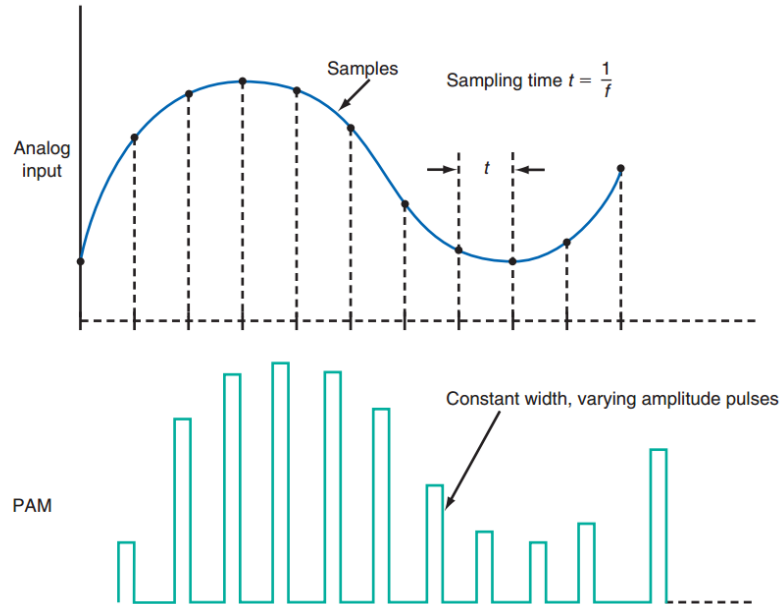
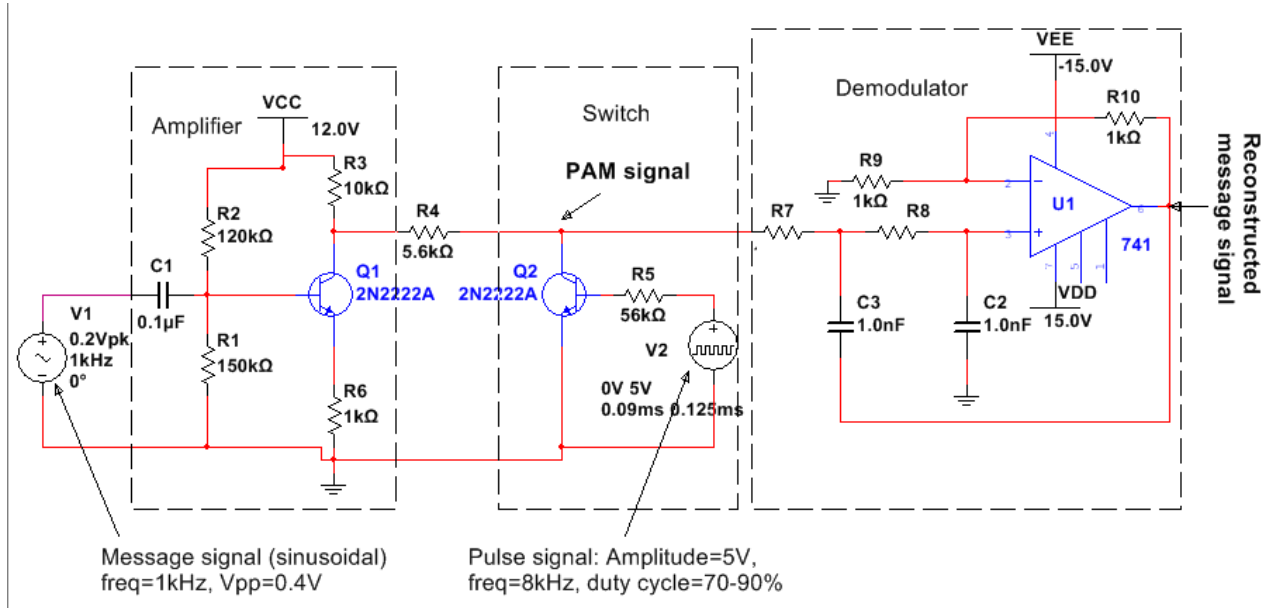

Figure 1: Modulating signal and PAM signal
Figure 2: Circuit diagram
Pulse modulation is the process of changing a binary pulse signal to represent the information to be transmitted. Pulse-amplitude modulation (PAM) is the simplest and the most basic form of pulse modulation. In PAM, the amplitudes of regularly spaced pulses are varied in proportion to the corresponding sample values of a continuous message signal. Figure 1 shows an analog modulating signal and the waveform produced by a PAM modulator [1]. The PAM signal shown in Figure 1 is a series of constant-width pulses whose amplitudes vary in accordance with the analog signal. The pulses are usually narrow compared to the period of sampling; this means that the duty cycle is low. Note that the modulating signal is strictly positive. The corresponding output of the modulator is known as the *single-polarity* PAM signal.
The circuit diagram for PAM generation and reconstruction is shown in Figure 2. The modulator circuit comprises of two parts: *amplifier* (transistor Q1) and *switch* (transistor Q2). The purpose of the amplifier stage is to convert the message signal into a non-negative signal as depicted in Figure 1. The switching is controlled by the pulse signal. At the collector of Q2, we get a series of pulses whose amplitudes are proportional to the message signal. The resulting output is the desired PAM signal. Note that the (sampling) frequency of the pulse signal must satisfy the Nyquist condition.
The reconstruction of the PAM is accomplished by the 2nd order Butterworth low-pass filter based on IC741 OP-AMP as shown in Figure 2.
- Implement the circuit for the amplifier stage as shown in Figure 2.